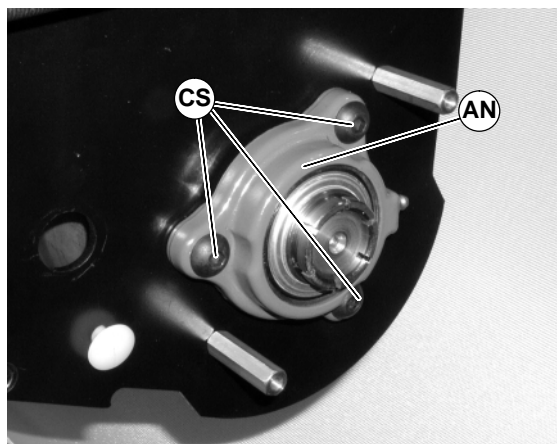

Figure 91
4. Remove the three (3) mounting screws (CS of Figure 91).
5. Remove and replace housing assembly (AN of Figure 91).
6. Tighten three (3) mounting screws (CS of Figure 91) to 200 in-lbs (22.5 N-m).